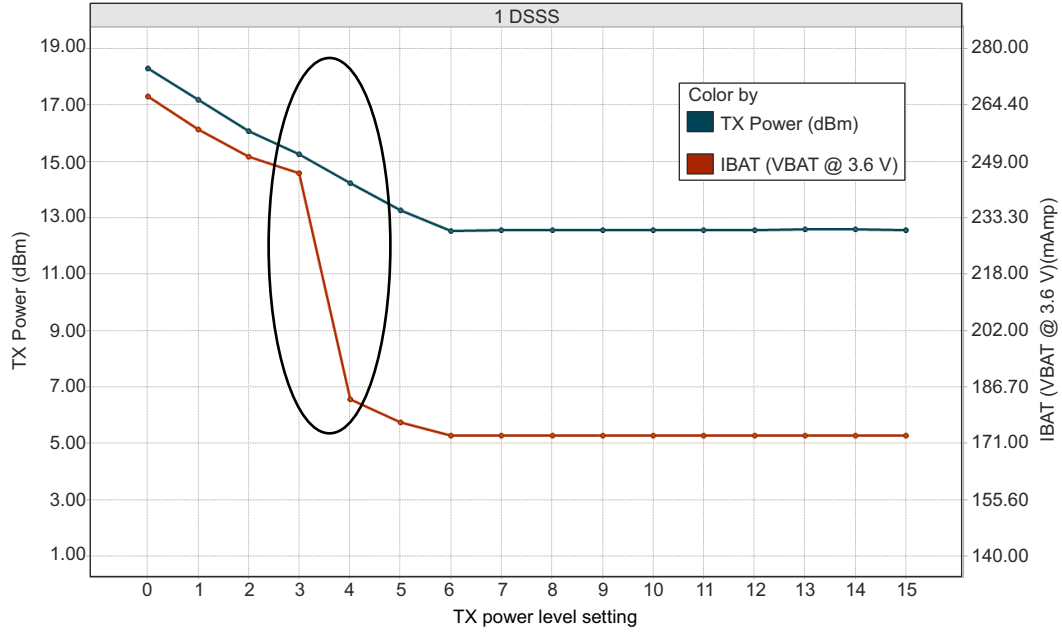
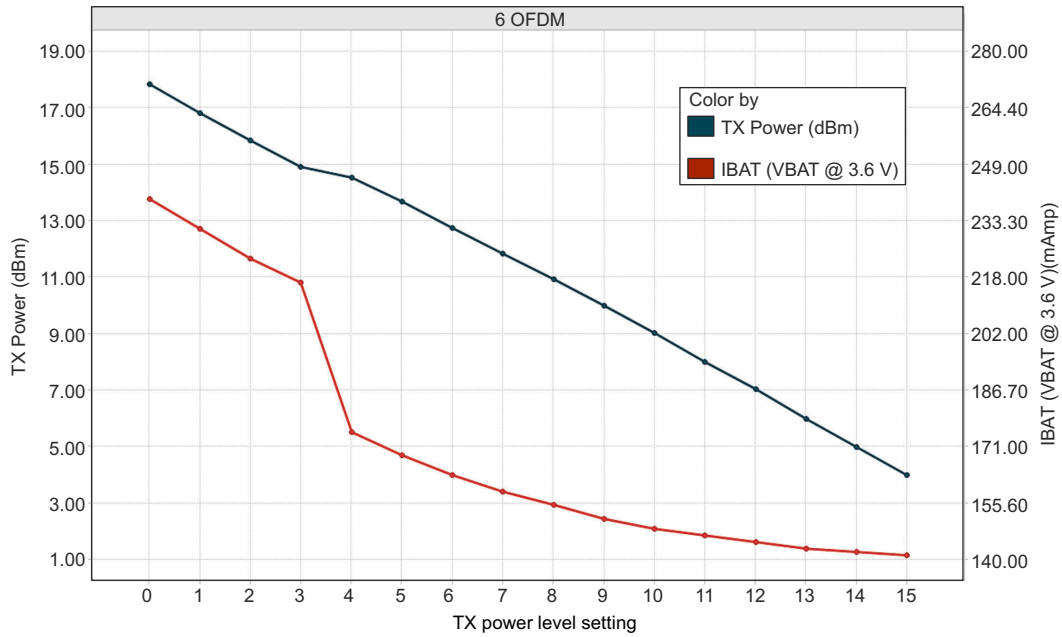
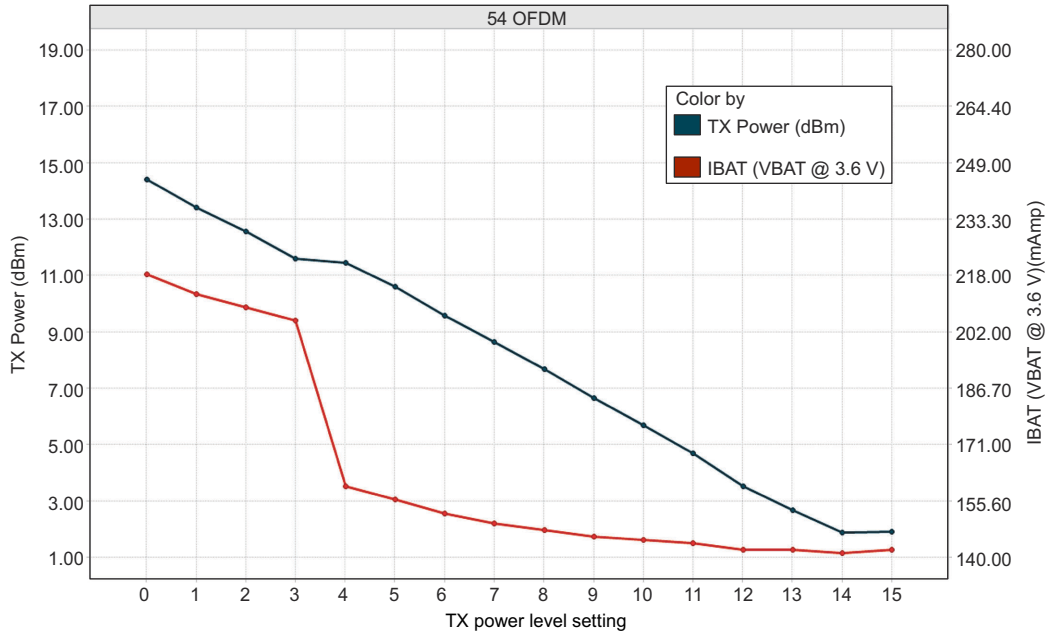

Figure 7-1. TX Power and IBAT vs TX Power Level Settings (1 DSSS)
Figure 7-2. TX Power and IBAT vs TX Power Level Settings (6 OFDM)
Figure 7-3. TX Power and IBAT vs TX Power Level Settings (54 OFDM)
- (1) TX power level = 0 implies maximum power (see Figure 7-1, Figure 7-2, and Figure 7-3). TX power level = 4 implies output power backed off approximately 4dB.
- (2) The CC3130 system is a constant power-source system. The active current numbers scale based on the V_{BAT} voltage supplied.
- (3) DTIM = 1.
- (4) The complete calibration can take up to 17mJ of energy from the battery over a time of 24ms. In default mode, calibration is performed sparingly and typically occurs when re-enabling the NWP and when the temperature has changed by more than 20°C. There are two additional calibration modes that may be used to reduce or completely eliminate the calibration event. For further details, see CC3x20, CC3x35 SimpleLink™ Wi-Fi® and Internet of Things Network Processor Programmer's Guide.
- (5) The RX current is measured with a 1Mbps throughput rate.
Figure 7-1, Figure 7-2, and Figure 7-3 show TX power and IBAT versus TX power level settings for the CC3130 device at modulations of 1 DSSS, 6 OFDM, and 54 OFDM, respectively.
In Figure 7-1, the area enclosed in the circle represents a significant reduction in current during the transition from TX power level 3 to level 4. In the case of lower range requirements (14dBm output power), TI recommends using TX power level 4 to reduce the current.